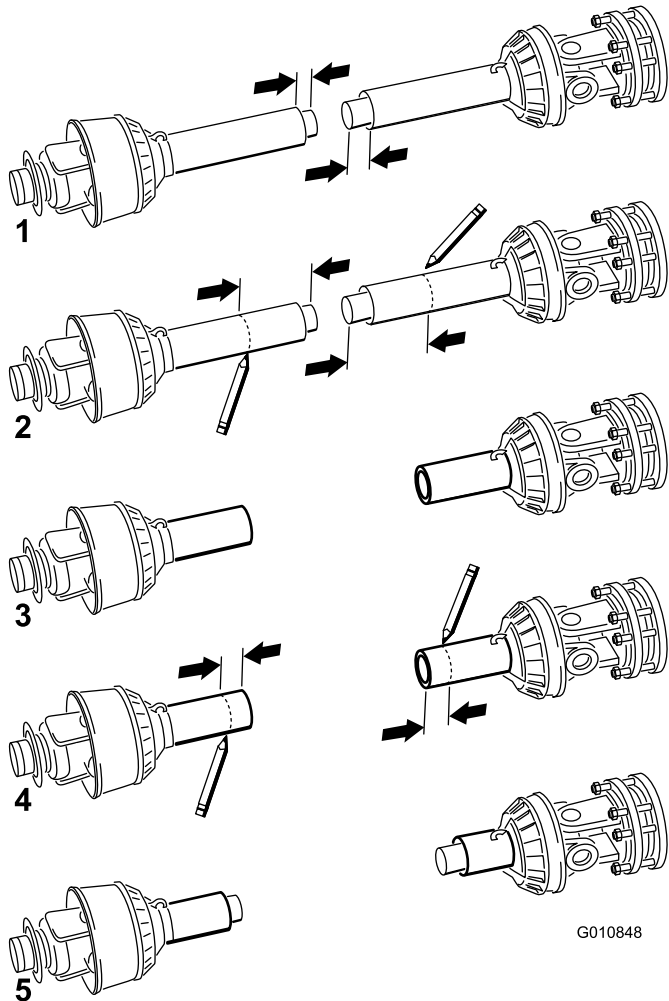

Figure 15
10. Separate the two halves of the PTO shaft (Figure 15, illustration 1).
11. Measure the distance from the end of each tube to its safety shield (Figure 15, illustration 1). Record the distances.
12. Using the dimensions determined in step 8, locate, mark and cut off the shield and tube from each PTO half (Figure 15, illustrations 2 & 3).
13. Using the dimensions determined in step 11, locate, mark and cut off just the safety shields to expose the tubes (Figure 15—illustrations 4 & 5).